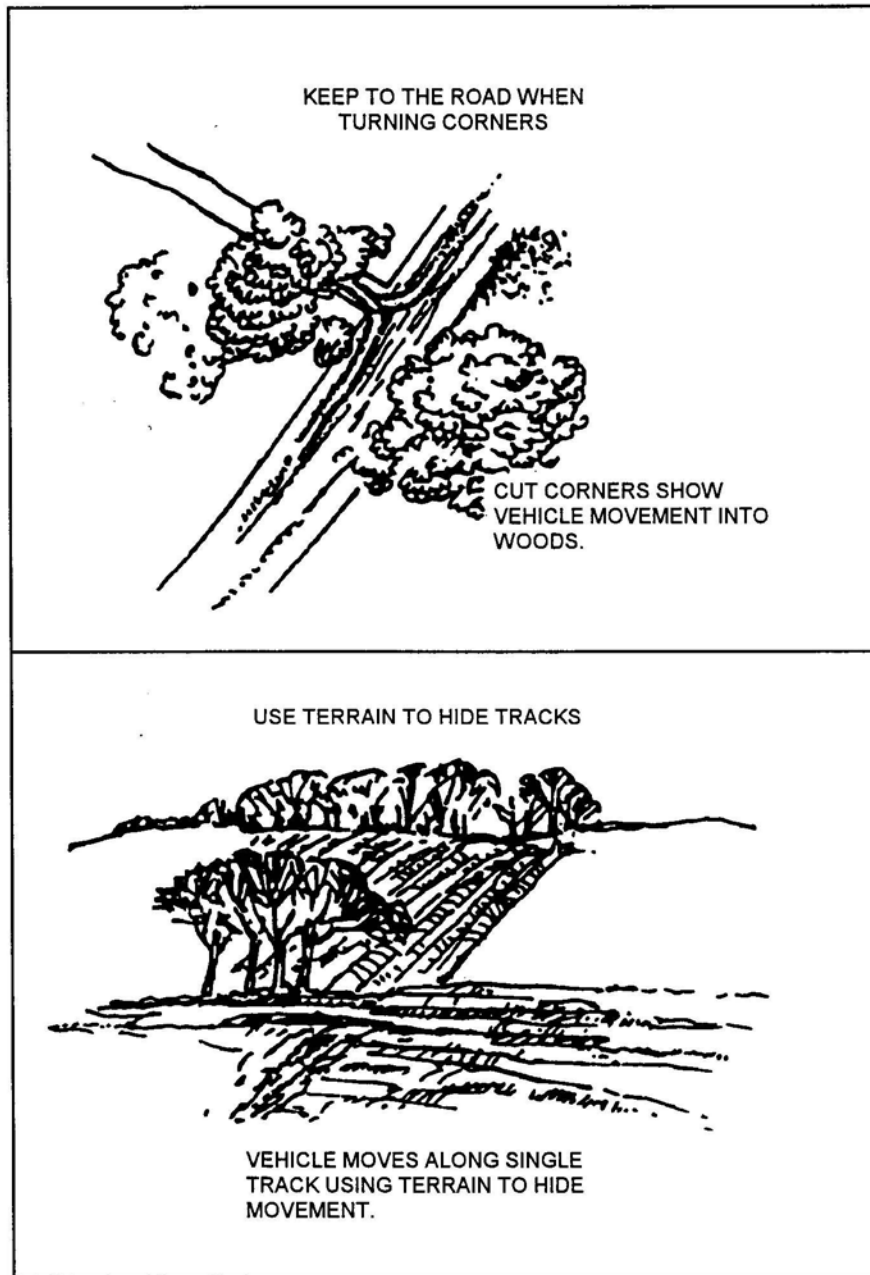

Figure 4. Hide tracks.
- d. Try to leave the terrain looking as natural as possible to make tracking by the enemy harder (Figure 4).